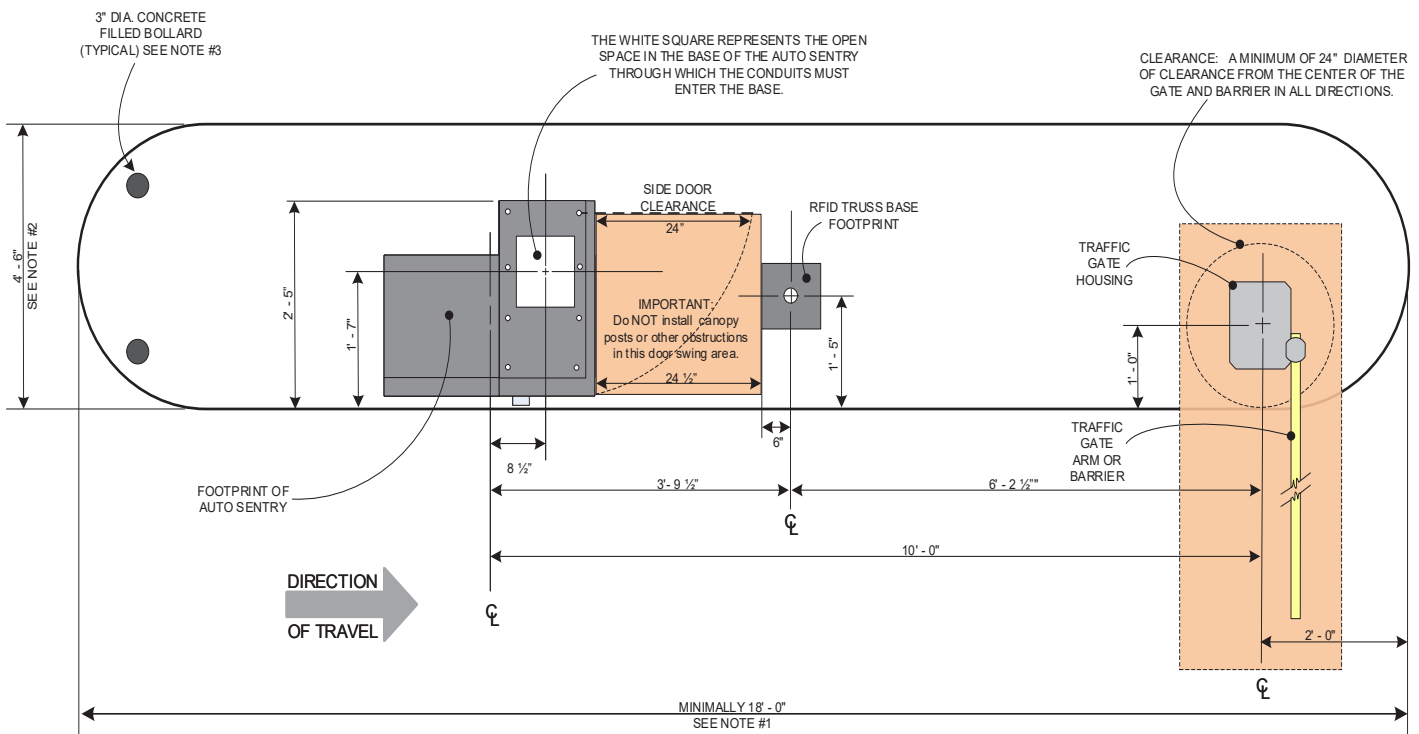

Figure 4. Auto Sentry Flex Island Specifications
- **NOTE #1:** The length of the island should be determined by the car wash owner, but ICS recommends that the island be a minimum of 18' - 0" in length. This will provide for adequate space for the proper placement of the Auto Sentry and its gate. If menu signs and other items are to be installed on the island, then it is the car wash owner's responsibility to increase the length of the island to accommodate these additional items. See Figure 4.